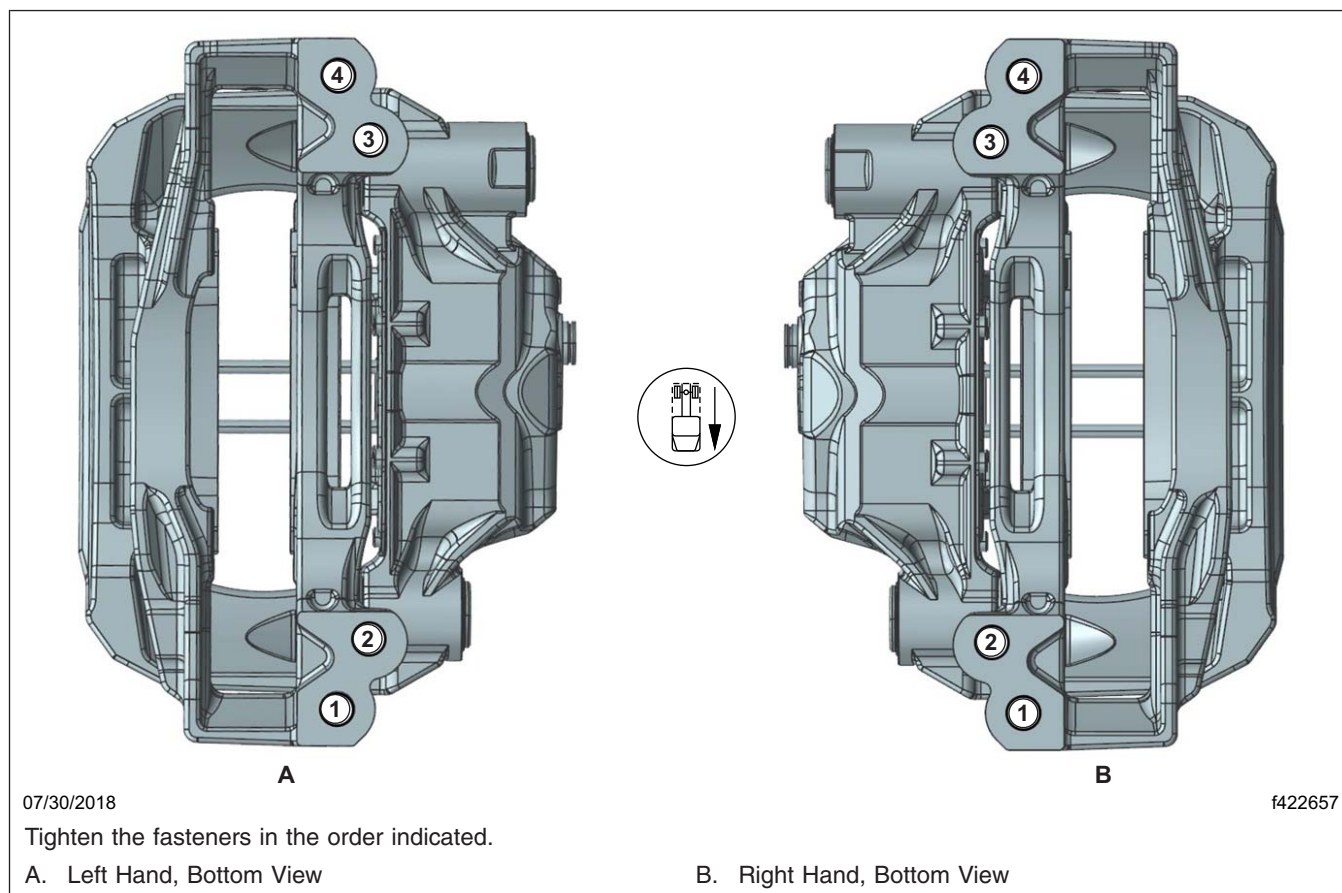

Fig. 9, Wabco Maxxus Radial Mounted Caliper Tightening Pattern
4. Set a torque wrench to 273 lbf·ft (370 N·m) and tighten the caliper mounting bolts following the tightening pattern shown in **Fig. 9**. If they do not turn, no further work is needed. If they turn, take the vehicle to an authorized Freightliner dealer to have all of the caliper bolts on that wheel end replaced.